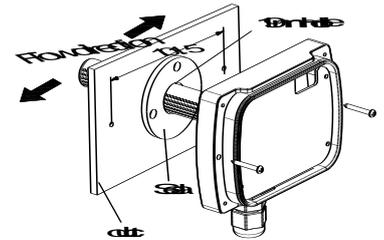

Fig.4
2. Install the enclosure directly on the duct as Fig.4. Drill a  $\phi 19\text{mm}$  hole on the duct, insert the probe into with the seal ring, and screw the enclosure on the duct directly.
- It has limited warranty for eighteen (18) months after the production date.